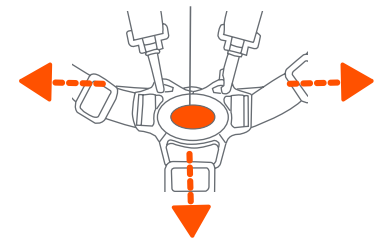

Fig. 10e
**RELEASE!** Push button on center clasp, the two harness buckles will release (Fig. 10e).